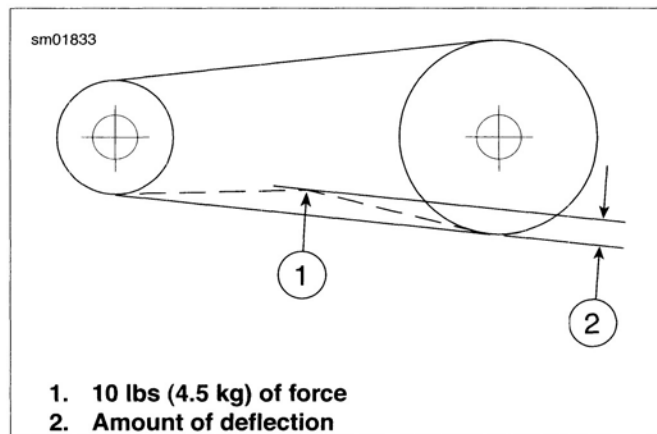

Figure 1-25. Checking Belt Deflection
- c. Press upward on knob (6) until o-ring slides down to 10 lbs (4.5 kg) mark (5).
3. See Figure 1-25. Check Drive belt deflection. Apply 10 lbs (4.5 kg) of force upward at point 1.